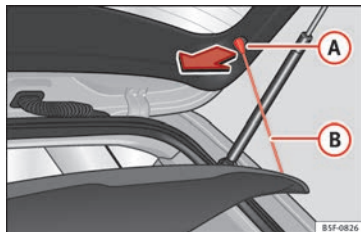

Fig. 163 In the luggage compartment: removing and installing the rear shelf.
- Detach the cord loops » **Fig. 163 B** from their hooks **A**.
- Hook the loops » **Fig. 163 B** to the rear lid » **△**.